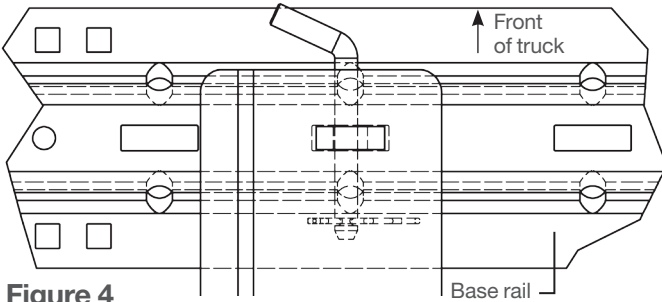

Figure 4
**CAUTION:** Be sure that all base rail hitch pins are positioned as shown in Figure 4 below and that all clips are secured before towing.